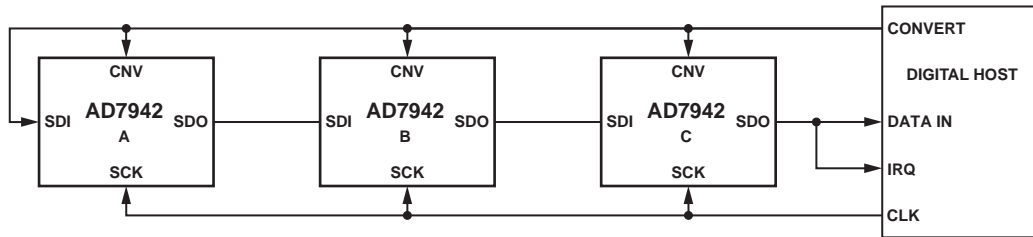
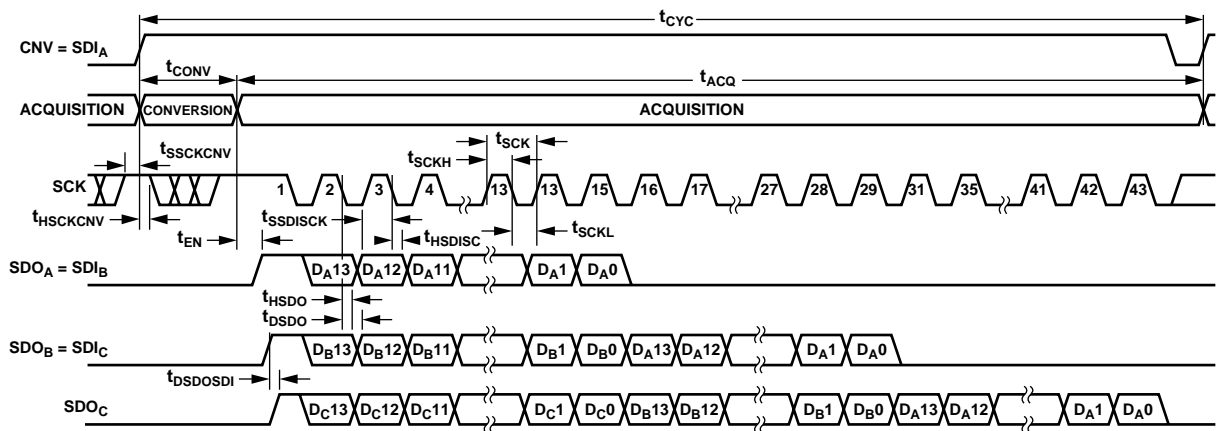

Figure 39. Chain Mode with BUSY Indicator Connection Diagram
Figure 40. Chain Mode with BUSY Indicator Serial Interface Timing
- In the chain mode, if SCK is high during the CNV rising edge (Figure 40).
A connection diagram example using three AD7942s is shown in Figure 39 and the corresponding timing is given in Figure 40.
Figure 39) SDO will be driven high. This transition on SDO can be used as a BUSY indicator to trigger the data readback controlled by the digital host. The AD7942 then enters the acquisition phase and powers down. The data bits stored in the internal shift register are then clocked out, MSB first, by subsequent SCK falling edges. For each ADC, SDI feeds the input of the internal shift register and is clocked by the SCK falling edge. Each ADC in the chain outputs its data MSB first, and  $14 \times N + 1$  clocks are required to readback the N ADCs. Although the rising edge can be used to capture the data, a digital host also using the SCK falling edge will allow a faster reading rate and, consequently more AD7942s in the chain, provided the digital host has an acceptable hold time. For instance, with a 5 ns digital host set-up time and 3 V interface, up to six AD7942s running at a conversion rate of 250 kSPS can be daisy-chained to a single 3-wire port.